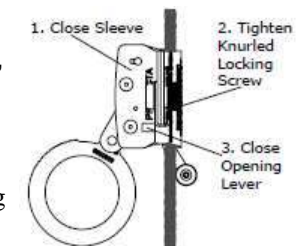

Figure 7
- To install on the lifeline, raise the locking cam to the "UP" position and install the rope inside the lifeline channel and close the rope grab halves. Screw-in the knurled knob and slide the locking latch closed (See Figure 7)